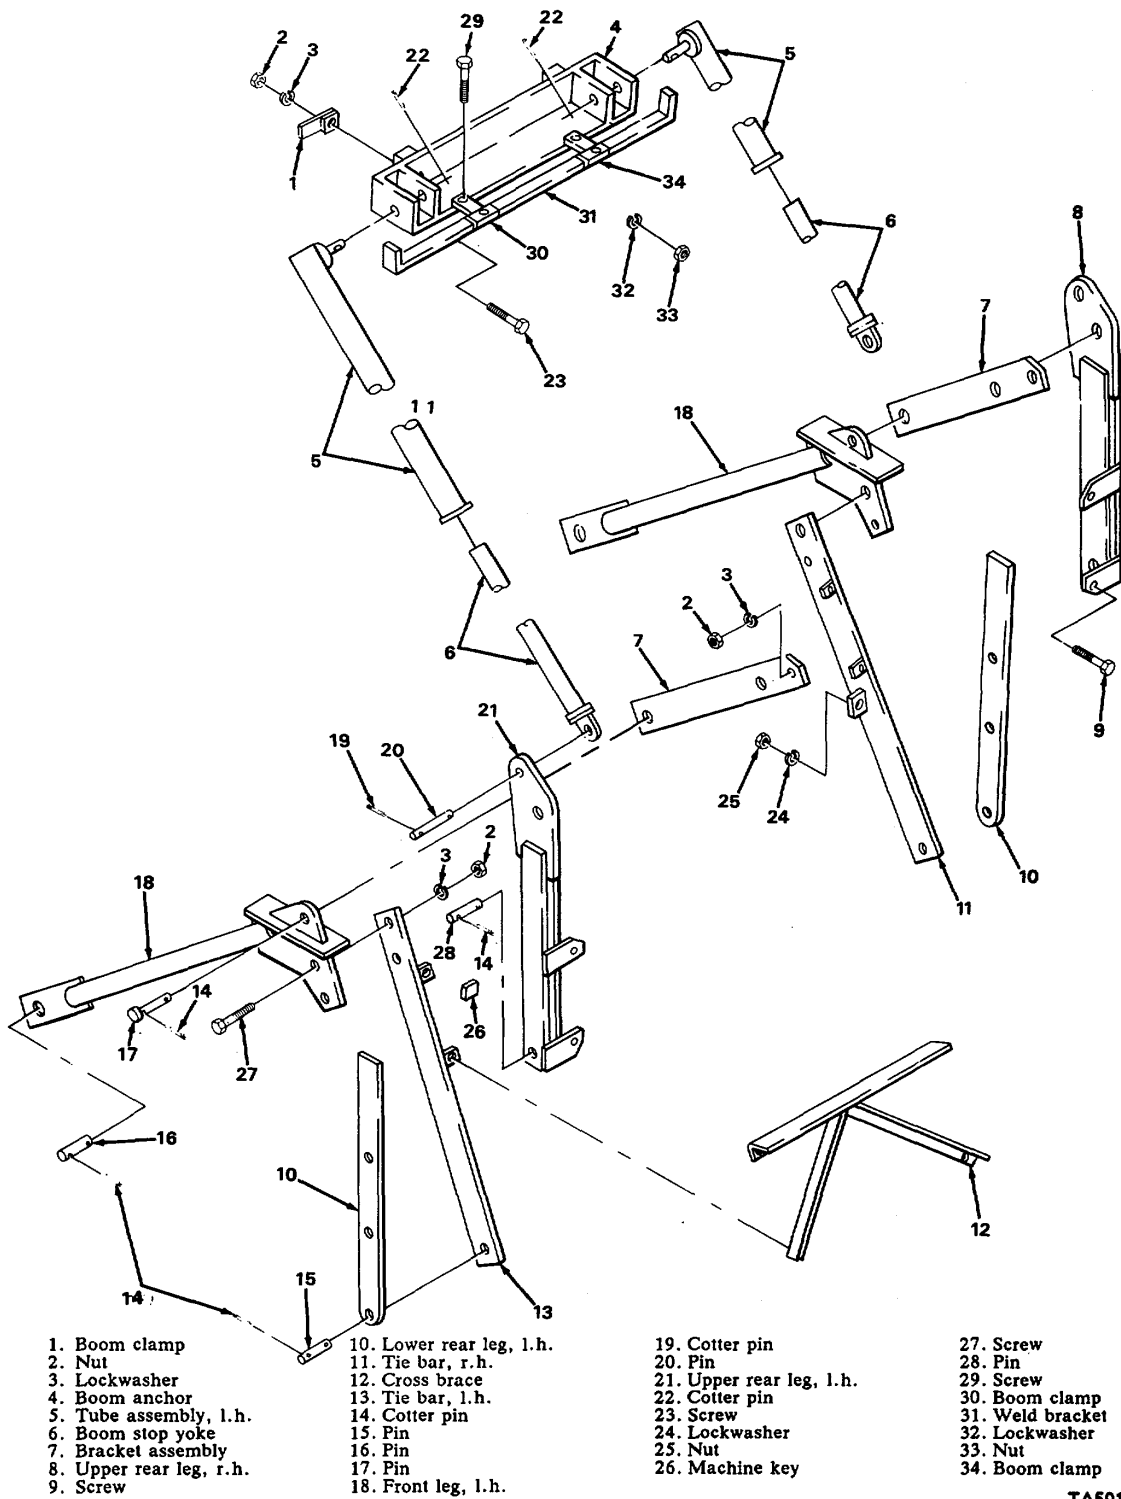

Figure 4-101.2. A frame, disassembly and reassembly.
- c. Disassembly. Disassemble A frame as shown on figure 4-101.2.
- (1) Clean the A frame with an approved cleaning solvent and dry thoroughly.
- (2) Inspect the A frame parts and pins for
- e. Reassembly. Reassemble A frame as shown on figure 4-101.2.